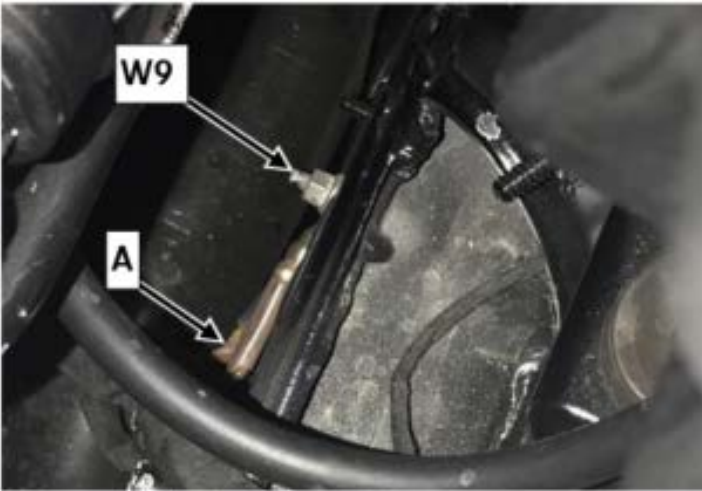

Figure 1
4. Remove illuminated star ground line (**A**, figure 1).
6. Route illuminated star ground line (**A, figure 1**) to jump-start connection point and attach to threaded pin of jump-start connection point.
8. Secure illuminated star ground line (**A, figure 1**) up to jump-start connection point.